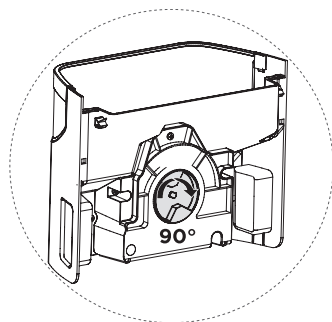

Figure 2
2. Clean the ice storage box as needed. The installation process of the ice storage box is contrary to the removal process. Pull the ice storage box downwards forcefully until it is installed in place. If it is difficult to install the ice storage box, turn the turntable on the ice storage box 90° according to Figure 2, and then install the ice storage box.